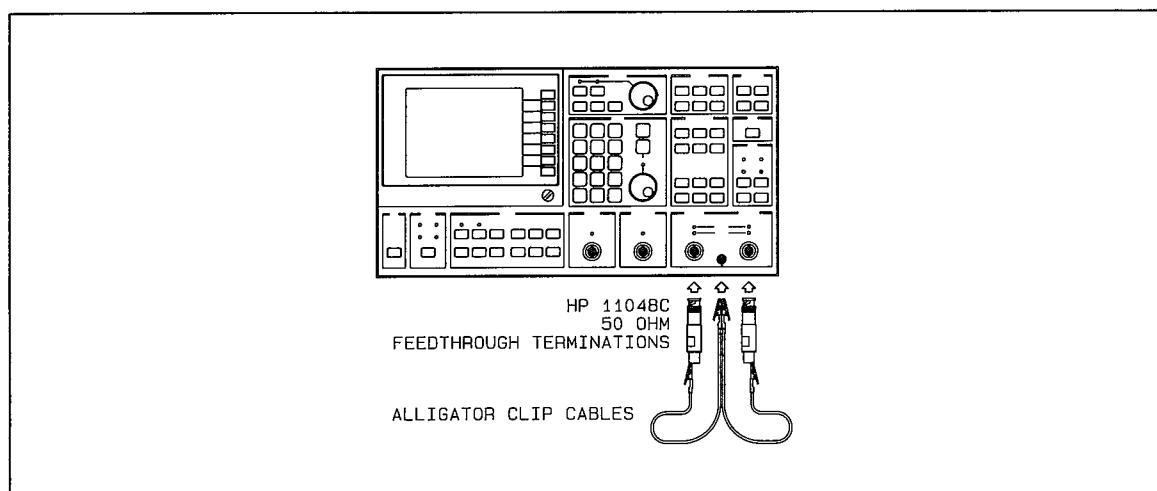

Figure 2-9 (OV) Noise and Spurious Signal Level Test Setup
- A. Connect the test instruments as shown in figure 2-9. Keep the leads from the feed-through terminations to chassis ground as short as possible.